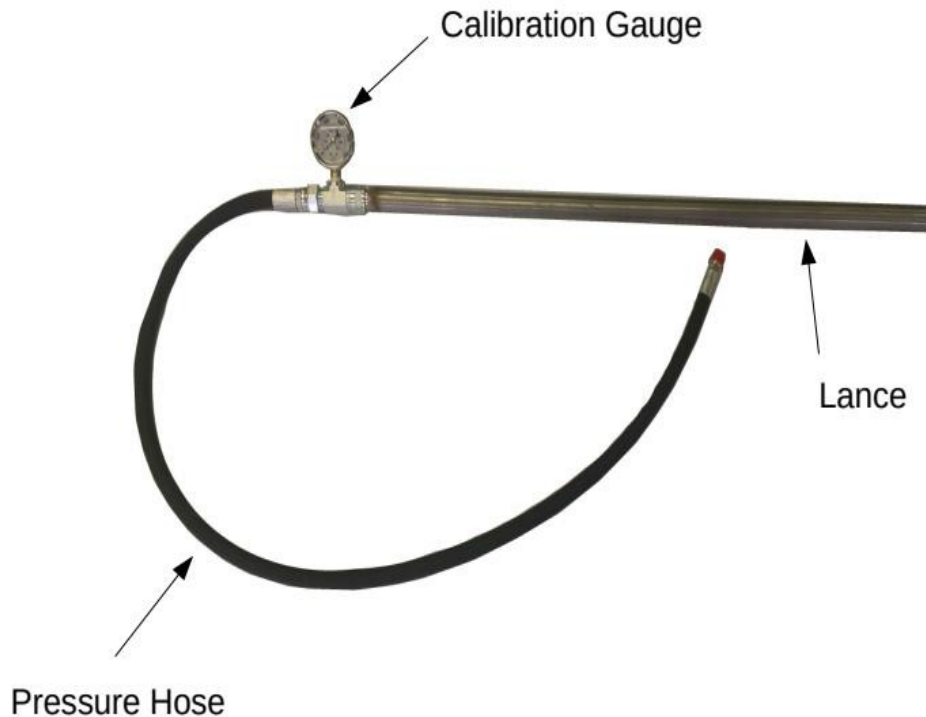

Figure 5.1 – Lance Pressure Calibration
3. Attach the calibration gauge between the main hose line and the lance and tighten it (See **Figure 5.1**).
7. Hold the lance tight and observe the calibration gauge (See **Figure 5.1**).